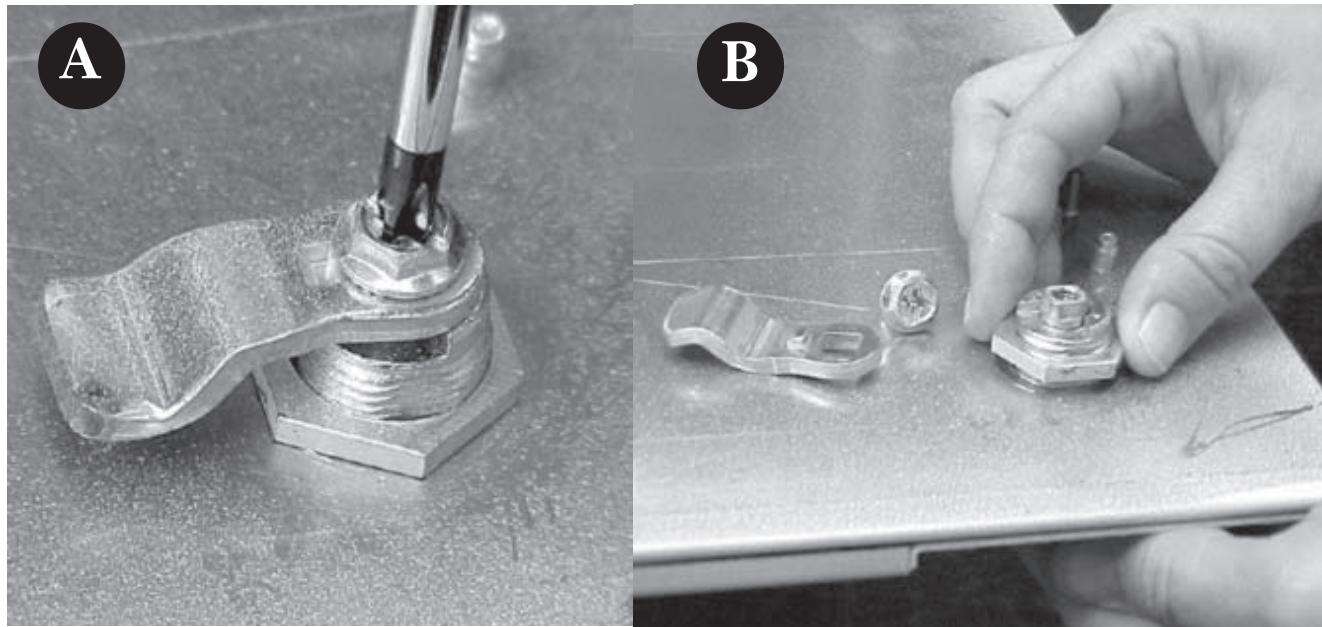

Figure 4
Step 4 Remove the retaining knob/latch assemblies (Figure 4).